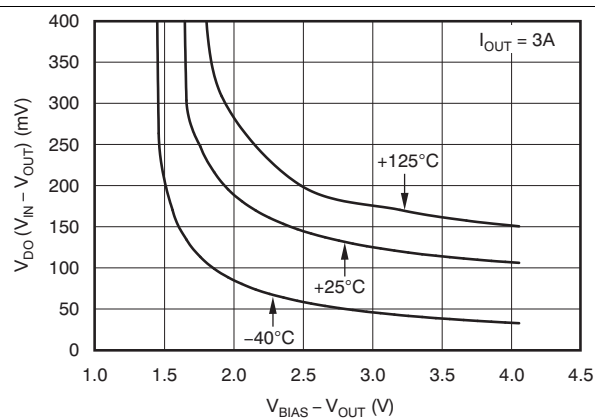
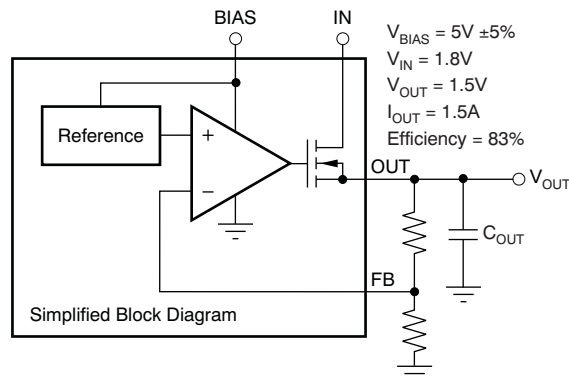

Figure 6. V_{IN} Dropout Voltage vs V_{BIAS} and Temperature (T_J)
Figure 23. Typical Application of the TPS74901 Using an Auxiliary Bias Rail
(1) Adjustable devices tested at 0.8 V; resistor tolerance is not considered.
(2) Dropout is defined as the voltage from V_{IN} to V_{OUT} when V_{OUT} is 3% below nominal.
(3) 3.25 V is a test condition of this device and can be adjusted by referring to Figure 6.
There are two different specifications for dropout voltage with the TPS74901. The first specification (see Figure 23) is referred to as $V_{\text{IN Dropout}}$ and is used when an external bias voltage is applied to achieve low dropout. This specification assumes that V_{BIAS} is at least 3.25 V above V_{OUT} , which is the case for V_{BIAS} when powered by a 5-V rail with 5% tolerance and with $V_{\text{OUT}} = 1.5 \text{ V}$ (3.25 V is a test condition of this device and can be adjusted by referring to Figure 6). If V_{BIAS} is higher than $V_{\text{OUT}} + 3.25 \text{ V}$, $V_{\text{IN dropout}}$ is less than specified.